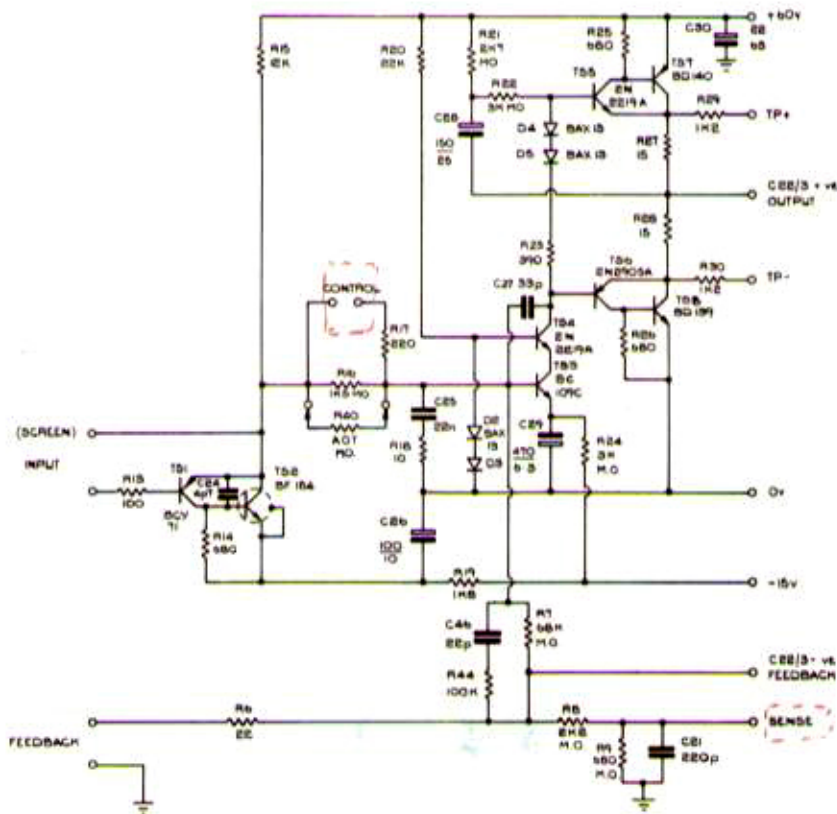

Fig. 7d Limiter. Circuit diagram.
- Fig. 7d Limiter. Circuit diagram. Module M3363/4